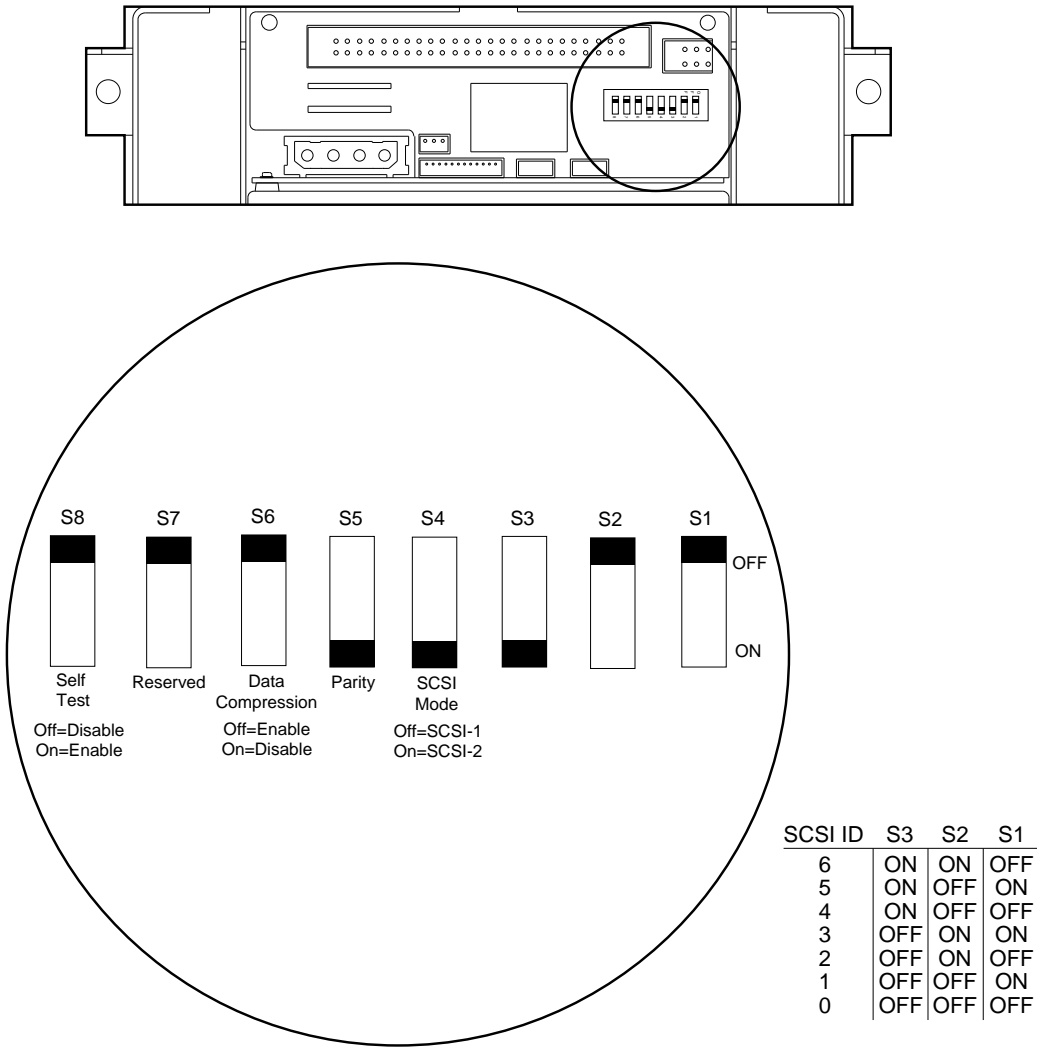

Figure 2-1. 5.0-Gigabyte DAT Drive Switch Settings and SCSI IDs
1. Ensure that tape drive switches S4 through S8 are set accordingly as shown in Figure 2-1.